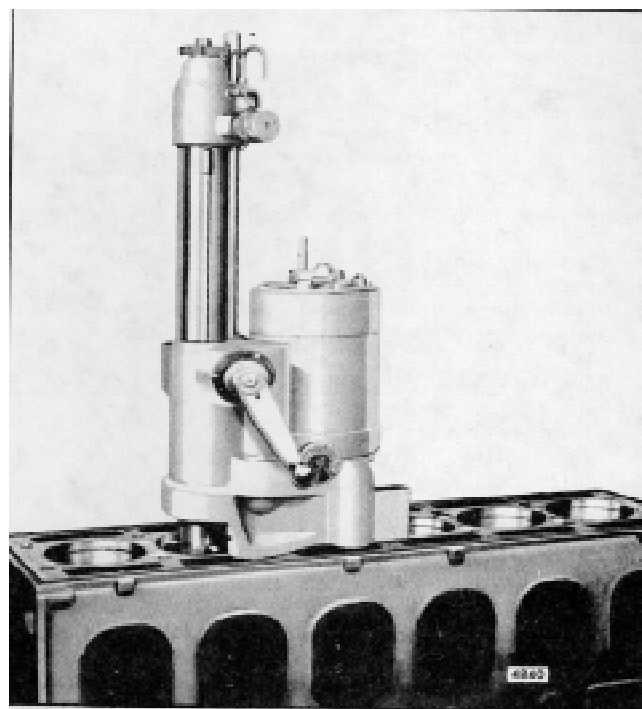

Fig. 14 Boring Cylinder Block with Portable Boring Bar
- b. A typical commercially available portable boring bar is illustrated in Fig. 14. Instructions on correct use of the boring bar are provided by the manufacturer.